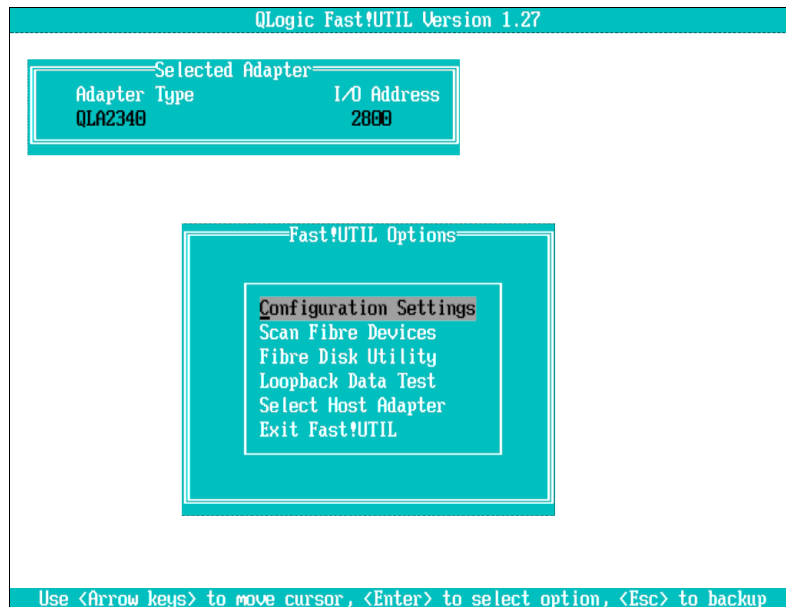

Figure 1-10 Fast!UTIL Options menu
2. You normally see one or more ports. Select a port and press Enter to display the next panel (see Figure 1-10). If you are enabling the BIOS on only one port, make sure to select the correct port.